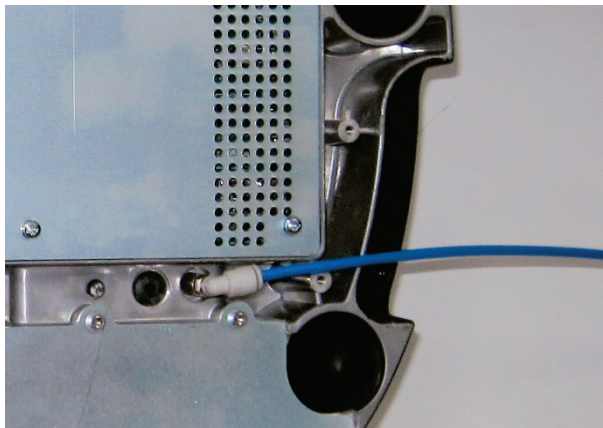

Figure 90 Tubing connected to instrument purge inlet port
4. Carefully, turn the instrument over to display the underside, placing the instrument on a soft surface (Figure 90).